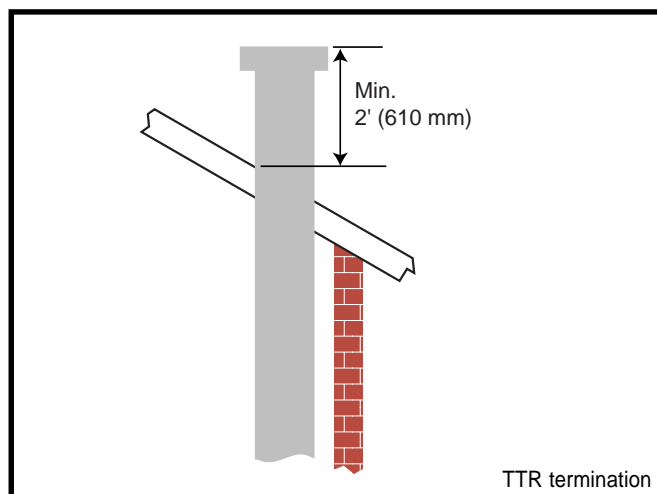

Fig. 33 Maximum termination to roof clearance
- The minimum height of the vent above the highest point of penetration through the roof is 2' (610 mm) (Fig. 33).
10. Add additional vent lengths for proper height (Fig. 33).